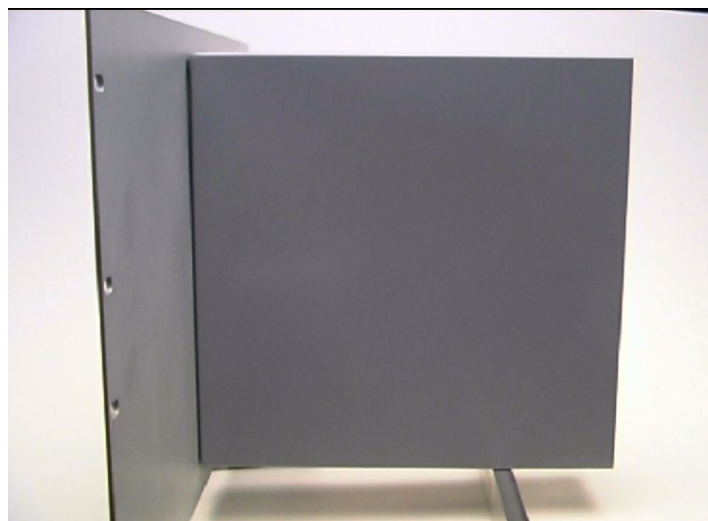

Figure 2-7. Panel Mount Support
3. Ensure a panel thickness of at least 3 mm (0.12 in) to prevent distortion. If you use a thinner panel, support the rear of the case (refer to *Figure 2-7*).